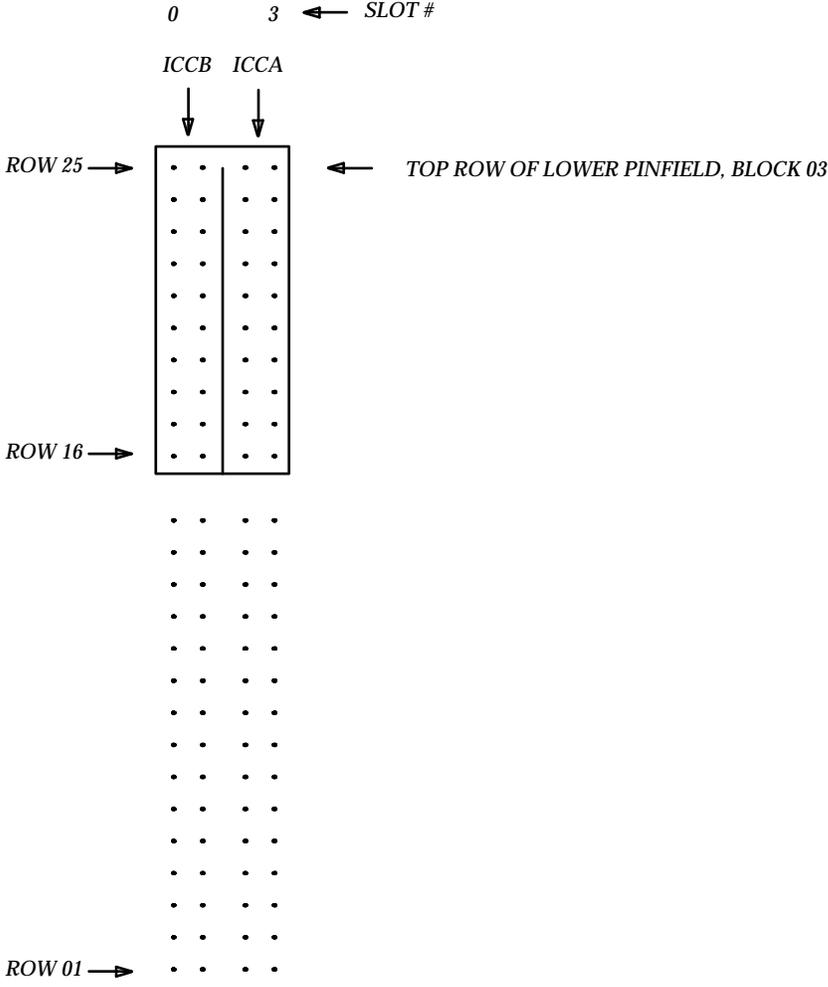

FIGURE 4-24. ICC Connectors J58890AF-1 Carrier
12. Connect the ICC cables (H600-204 Gr1) to the “A” carrier using Table 4-H and Figure 4-24 at the pin block marked “ICC.” The cables should be connected so that the dark (red, blue, or purple depending on the supplier) stripe on the cable is on the bottom.